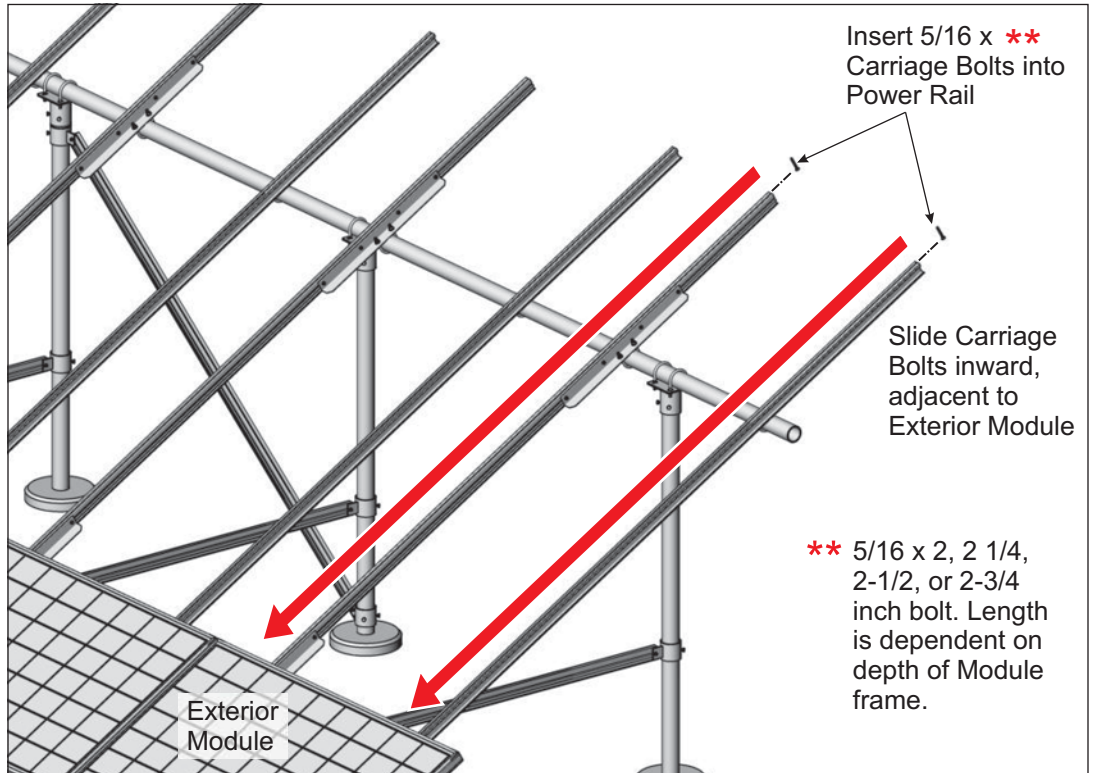

Figure 7-4: Inserting Mid Clamp Hardware into Power Rail
- A. Before placing an interior Module onto the Power Rails, first insert 5/16" x 2, 2 1/4, 2 1/2, or 2-3/4 inch carriage bolts (bolt length is dependent on depth of PV Module frame) into the Module Rail, sliding the bolts inward adjacent to the previously installed exterior Module. (See Figure 7-4)